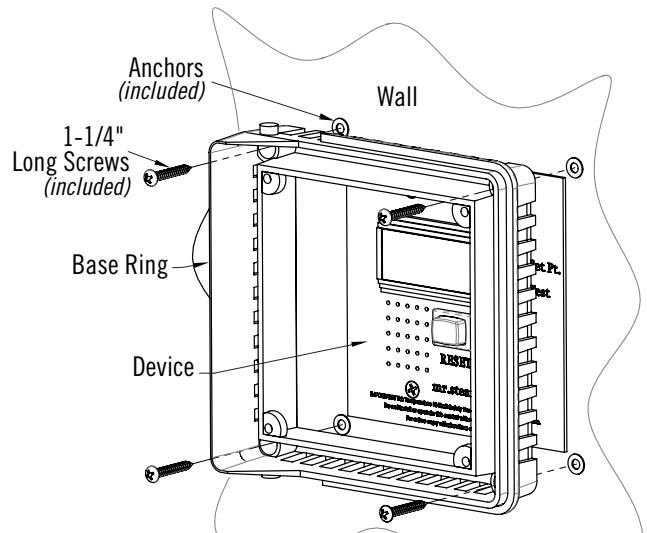

Fig. 3
- Mount Base Ring to wall with 4 anchors (included) and 4 x 1-1/4" long screws (included), see fig 3.